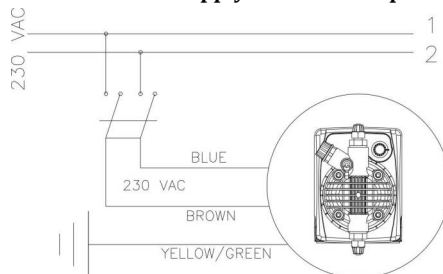

Fig. 4
Proceed as follows before you dismantle the pump or before performing any other operation on it: Disconnect the pins from the mains or by means of a two poles switch with 3 mm minimum distance between the contacts. (Fig. 4).
b. - Carefully observe the regulations in force in the various countries as regards electrical installations (Fig.4). **When the supply cable is devoid of a plug, the equipment should be connected to the supply mains by means of a single-pole circuit breaker having a minimum distance of 3 mm between the contacts. Before accessing any of the electrical parts, make sure that all the supply circuits are open.**